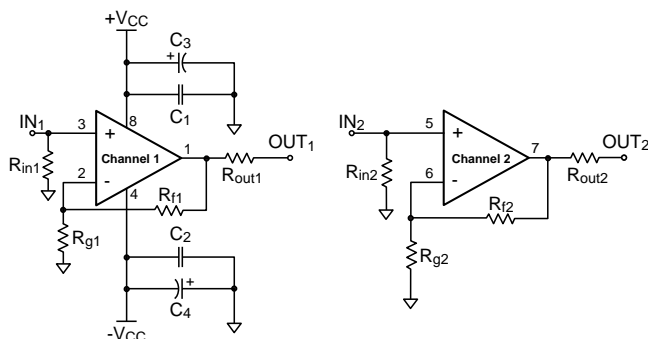

Figure 1: Non-inverting Gain Configurations
Figure 1 shows the non-inverting schematic for both boards. The input signal is brought into the board through SMA connectors to the non-inverting input of the amplifier. The resistor R_{in} is used to set the input termination resistance to the op amp. The non-inverting gain is set by the following equation:
1. Included R_f and R_g as shown in Figure 1